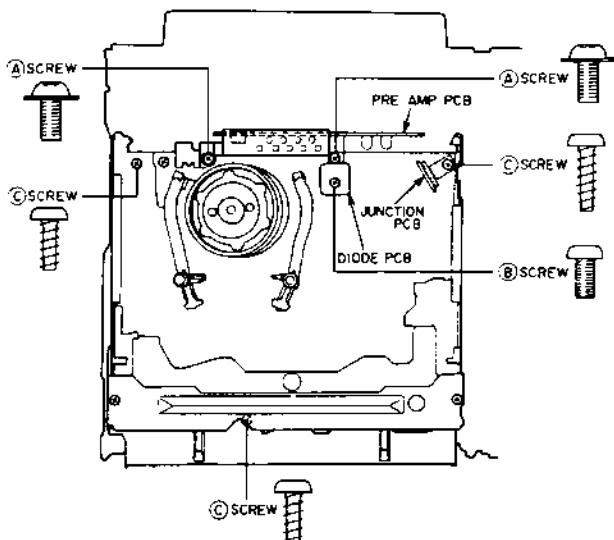

Fig. 4-24
- 1) Remove the two Ⓐ screws then pull up the PRE AMP PCB as shown in Fig.4-24.
- 3) Remove the three Ⓒ screws from the MECHA. FRAME as shown in Fig.4-24.